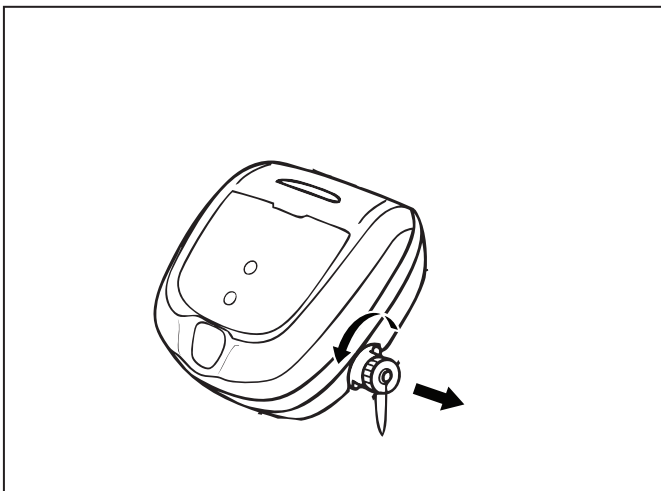

Figure 10. Remove Protective Cap
1. Unscrew the protective cap for the floating cable from the side of the control unit by turning counter-clockwise (Figure 10).